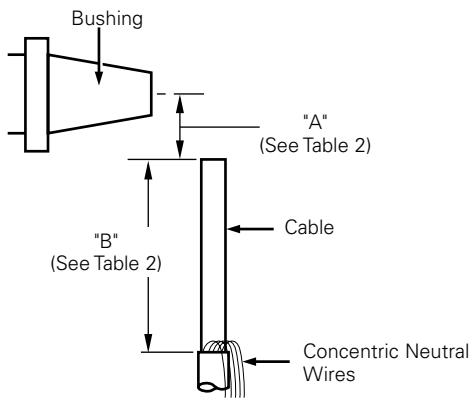

Figure 4. Line illustration of removing concentric neutral wires.
- Measure reference length "B" from end of cable. (Refer to Figure 4 and Table 2 to determine variable "B" length.
- For unjacketed neutral cable, bind neutral wires using three (3) wraps of tape at "B" dimension.